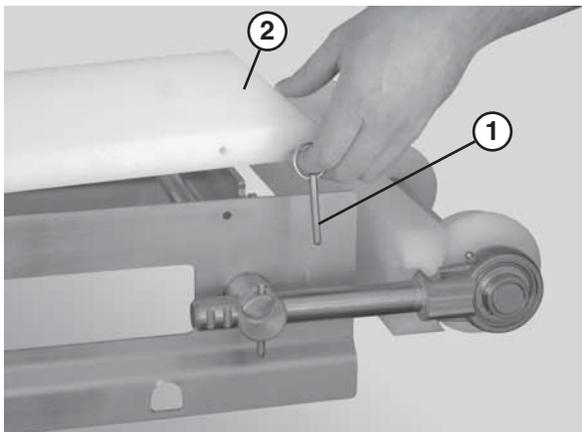

Figure 57
1. Remove the guides, if applicable, by removing the pull pins (**Figure 57, item 1**) that connect the guide (**Figure 57, item 2**) to the frame.
1. Remove the pull pins (Figure 57, item 1) that connect the guide (Figure 57, item 2) to the frame.